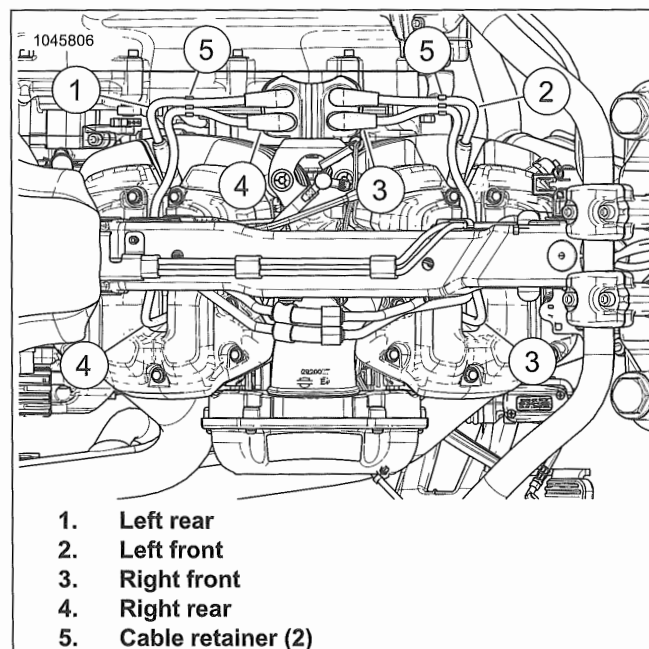

Figure 7-11. Spark Plug Cable
1. See Figure 7-11. Remove cables retainers (5).
1. See Figure 7-11. Route and connect long cables (3, 4) to right spark plugs.